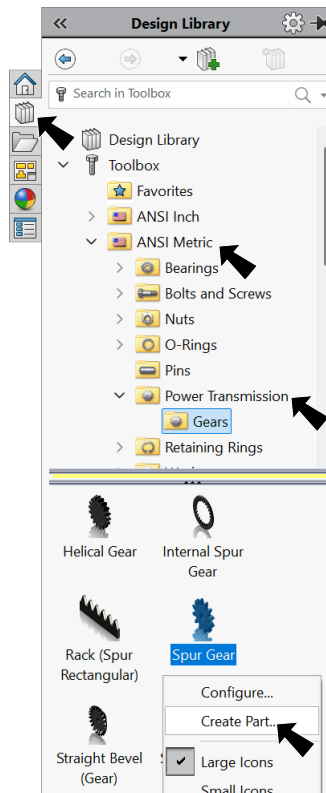

Fig. 1
Step 1. Click **Design Library** tab  in the Task Pane, **Fig. 1**.
Step 3. In the lower pane, **right click Spur Gear**  and click **Create Part** from menu, **Fig. 1**.